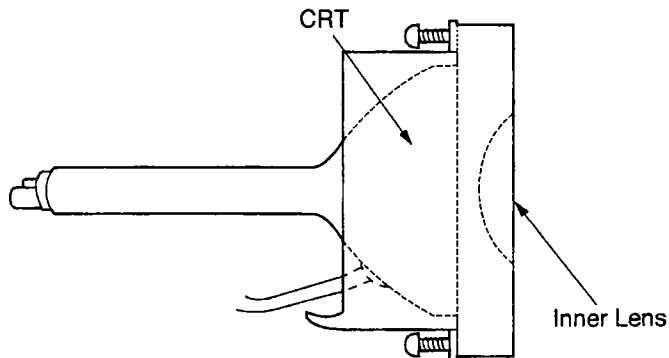

Fig 5-3
**Note:** The replacement CRT is supplied as an assembly comprised of the CRT and the Inner Lens with the space between them filled with ethylene glycol. Care should be taken during handling and installation to prevent shock from disrupting the seal or alignment between the CRT and Inner Lens. [Fig. 5-3]